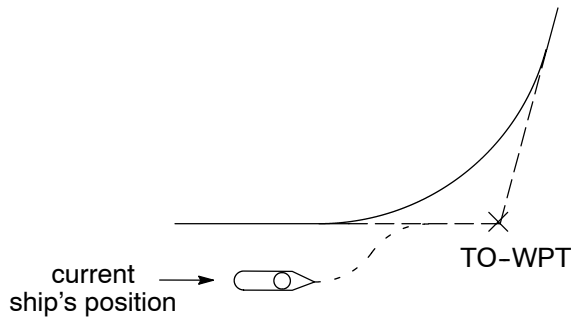

Fig. 8: Intended GO-TO-TRACK Maneuver Impossible with the Ship too Close to the TO-WPT
1. On activating track control (See Fig. 8 and Fig. 9)